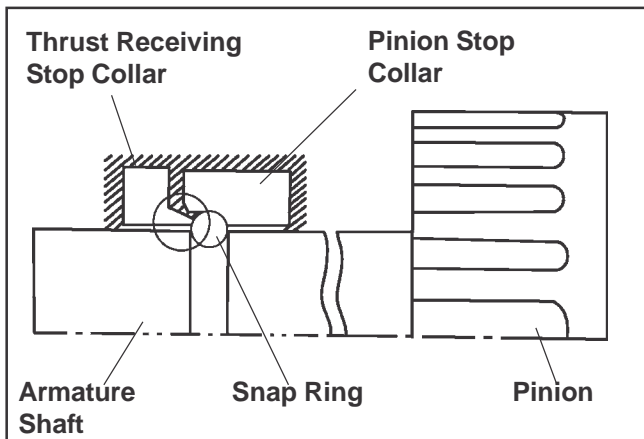

Figure 8-45. Stop Collars and Retainer.
- The outward travel of the drive pinion is controlled by a snap ring, installed in a groove in the armature shaft, and a two-piece stop collar. The snap ring fits into a recess in the pinion (lower) stop collar, which locks it in the groove (see Figure 8-45). The thrust receiving (upper) stop collar has a projecting flange, which rests on the snap ring, and it serves as a thrust washer to protect the front armature bushing in the drive end cap.